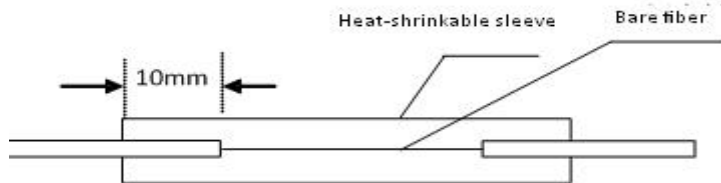

Fig. 7-7 Utilization of protection sleeve
- b) Move the sleeve to a bare fiber and put them into the heat oven together. Center the sleeve in the oven. The placement position must be correct as shown in Fig.7-7.